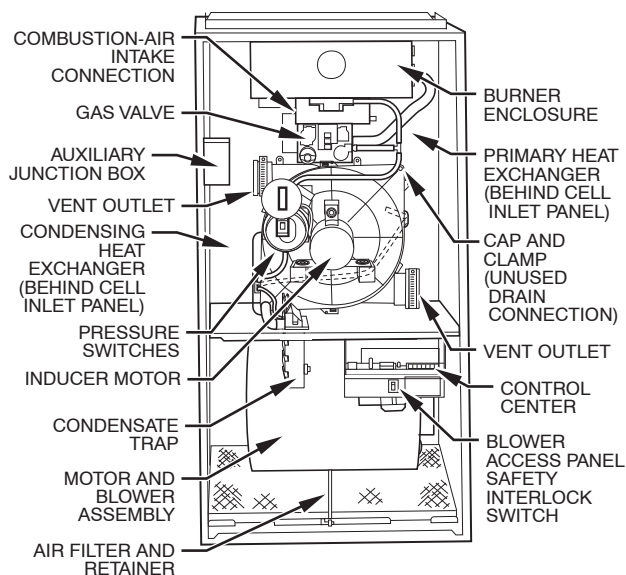
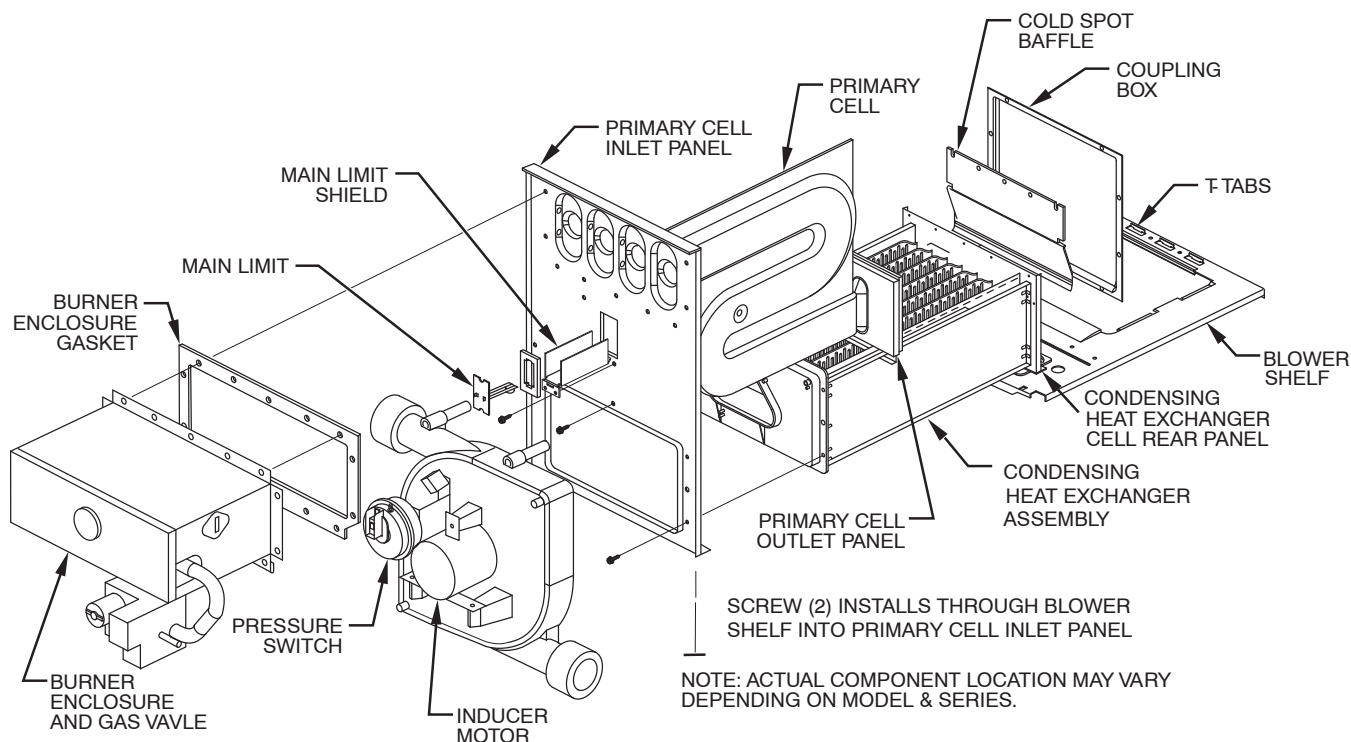

Fig. 1 - Fixed and Two-Stage Models
Fig. 3 - Expanded View of Heat System Components in Upflow Orientation
See Fig. 1 and 2 for furnace component locations. See Fig. 3 for expanded view of heating system components.
2. Apply sealant releasing agent such as PAM cooking spray or equivalent (must not contain corn or canola oil, halogenated hydrocarbons nor aromatic contents to prevent inadequate seal) to primary cell outlet panel and condensing heat exchanger surface where new coupling box sealant will mate. (See Fig. 3.)
NOTE: Coupling box mounting holes will only align in 1 position. (See Fig. 3.)
NOTE: When re-installing condensing heat exchanger assembly, the lower flange of the condensing heat exchanger cell rear panel must engage on the T-tabs in rear blower shelf. (See Fig. 3.)